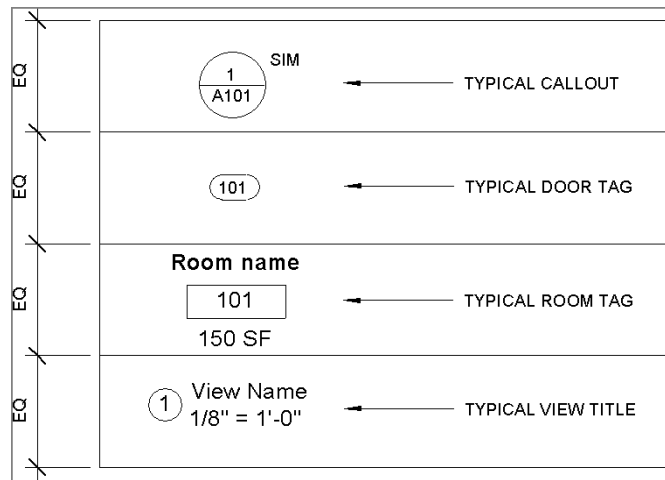

FIGURE 11.53: Draw the horizontal lines, and then equally constrain them using the Dimension command.
9. Move the symbols and the text to the proper positions (see Figure 11.53).